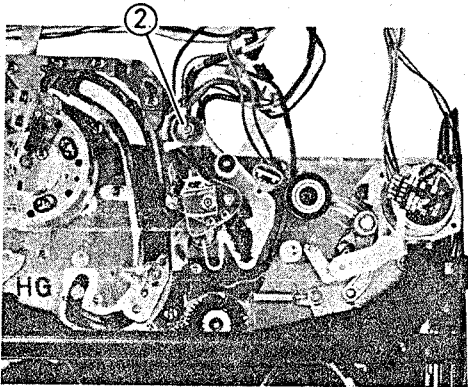

Fig. 2-102 A/C Head Base Removal
A/C Head Base Removal (Fig. 2-102)
2. Remove one (1) nut, two (2) washers and one (1) bearing. (See Fig. 2-102)
2. Remove the A/C head base. (See Fig. 2-102)